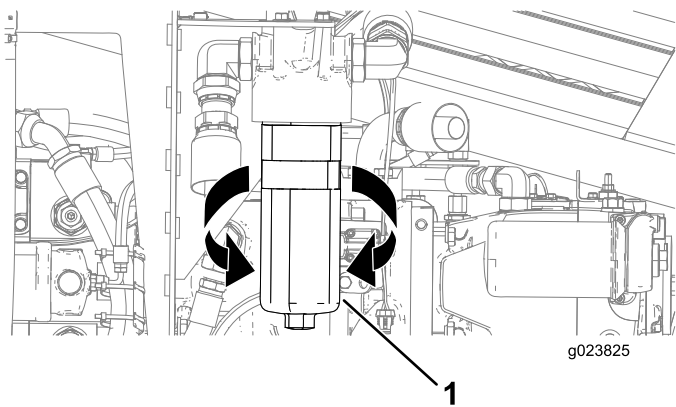

Figure 122
3. Align a drain pan or several rags under the charge filter (Figure 122).
4. Rotate the high-pressure hydraulic filter counterclockwise and remove the filter (Figure 122).
6. Align the high-pressure hydraulic filter to where it seats, and rotate it clockwise until the torque reaches 61 N-m (45 ft-lb) as shown in Figure 122.